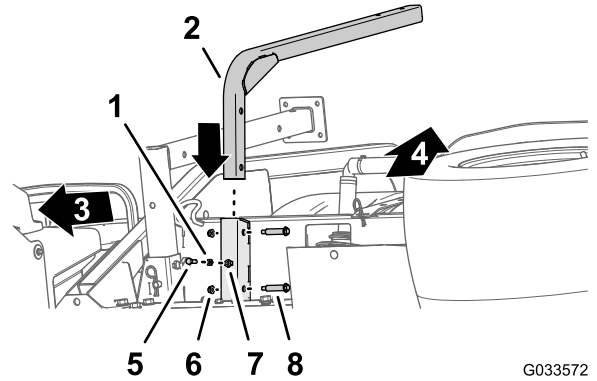

Figure 44
1. Align the support tube for the freshwater tank with the tank-support channel (Figure 44).
2. Align the holes in the support tube with the holes in the channel (Figure 44).
3. Secure the tube to the channel (Figure 44) with the 2 shoulder bolts (1/2 x 1-15/16 inches) and 2 flange locknuts (5/16 inch).
5. Thread the jam nut (5/16 inch) into the bolt (5/16 x 1 inch) as shown in Figure 44.
6. Thread the bolt (5/16 x 1 inch) and jam nut into the weld nut at the bottom of the tank support channel and tighten the bolt and jam nut by hand (Figure 44).